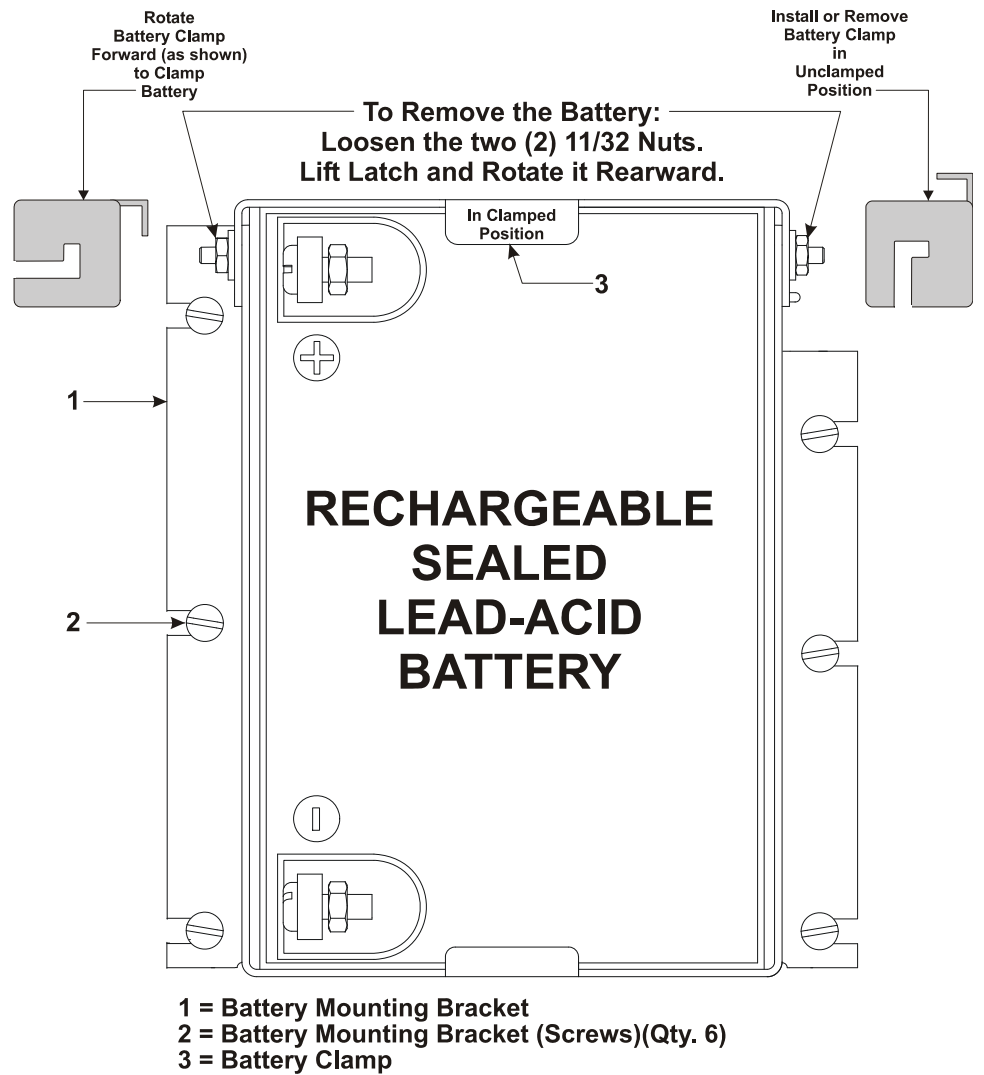

Figure 2-15. Enclosure with Sealed Lead-acid Battery Installed
Remove the rechargeable sealed lead-acid battery from its shipping carton and install it on its mounting bracket within the enclosure as illustrated in *Figure 2-15*.
3. Install the lead-acid battery (on end) as illustrated in *Figure 2-15*.